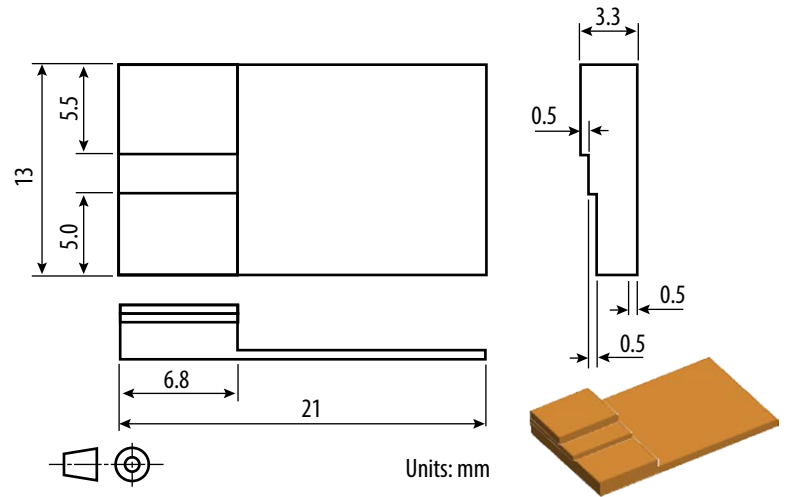

Figure 13: Detailed drawing of the copper heat-spreader used for the EPC9177 evaluation board cooling system.
- A custom profile copper heat-spreader, see figure 13
A detailed drawing of the heat-spreader is given in figure 13.